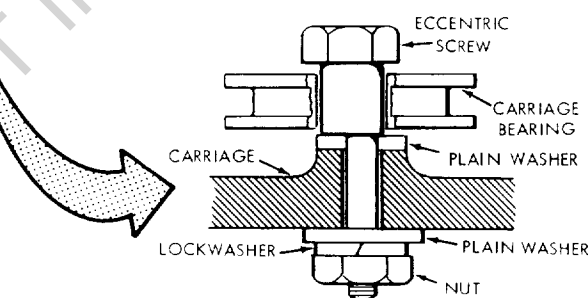

Figure 56
- (2) Working on one bearing at a time (figure 55) loosen the nut on the eccentric screw just enough to permit the screw to turn. (See figure 56.)